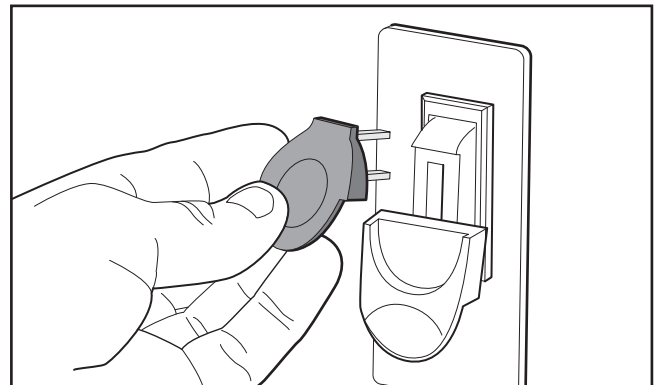

Figure 21. Removing switch disabling key.
7. Remove switch disabling key, as shown in **Figure 21**.